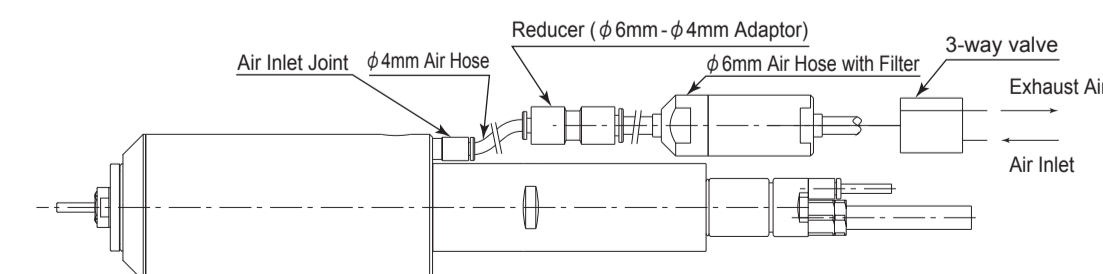

Fig. 4
- When installing the collet chuck clamp / unclamp fittings, thoroughly read the instructions before connecting. (Fig. 4)